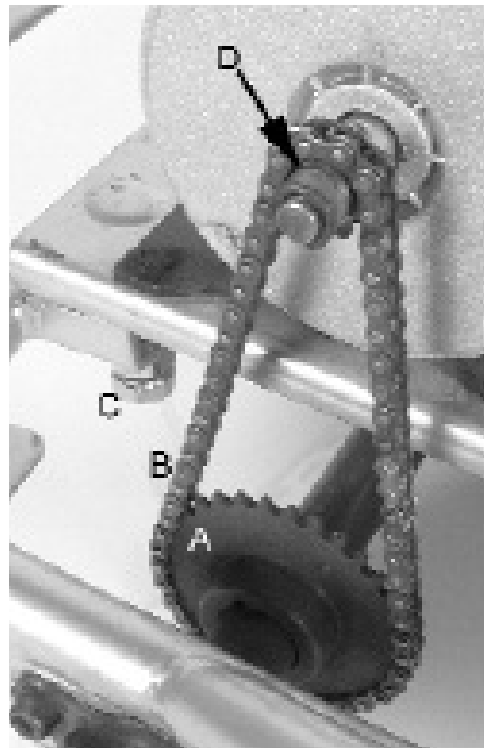

Figure 8b
Referring to Figure 8b, the chain-drive system consists of the drive-shaft sprocket (A), the roller chain (B), the adjusting bolt (C and B in 8a), and the motor shaft sprocket (D).